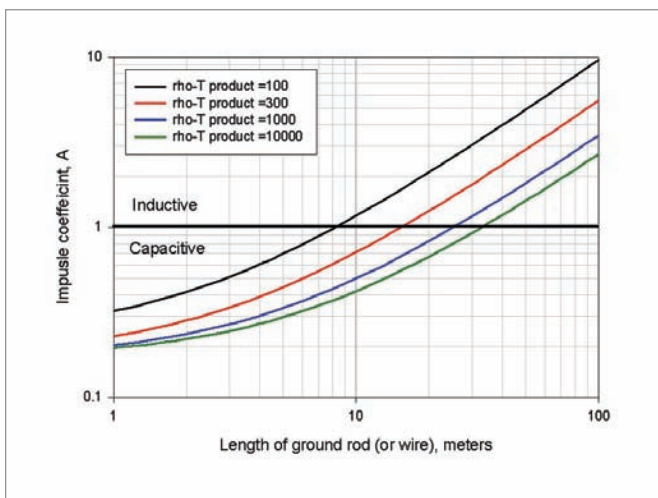

Figure 6: Impulse coefficient versus length of ground rod (or wire)
From (9) the effect of the ground rod reactance can be calculated. As an illustration, take the four cases of ρT_p , = 100, 300, 1000 and 10,000 and use (9) to plot A vs. length of rod. The result is shown in Figure 6.